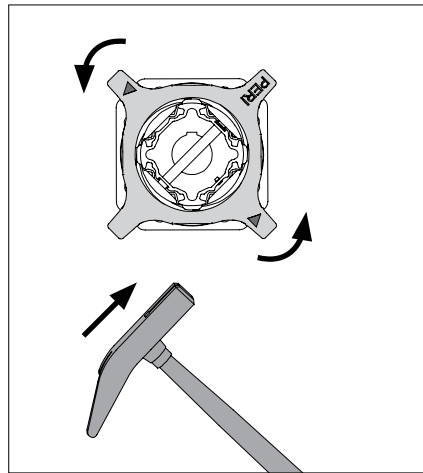

Fig. A2.01a
- hammering the lowering cam (Fig. A2.01a)